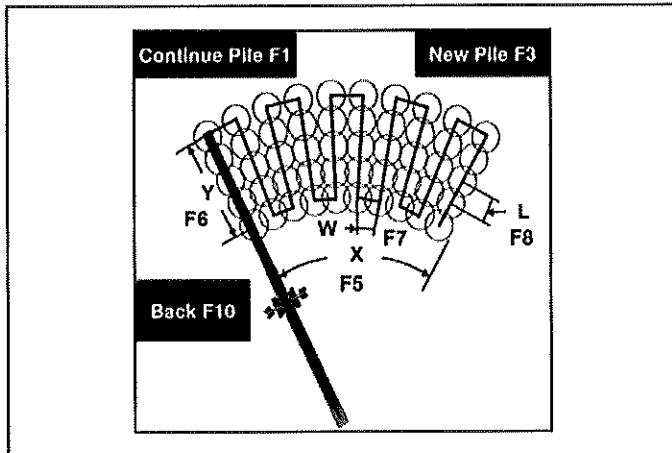

Figure 68
- Press screen **F5** or **[F5]** to adjust radial arc distance (**X**) (Figure 68).
- Press screen **F6** or **[F6]** to adjust extension distance (**Y**) (Figure 68).
- Press screen **F7** or **[F7]** to adjust radial increment distance (**W**) (Figure 68).
- Press screen **F8** or **[F8]** to adjust extension increment distance (**L**) (Figure 68).
- Press screen **F3** or **[F3]** to proceed with your new pile parameters or press screen **F1** or **[F1]** to accept to a previous enter pile (Figure 68).
- i. Press screen F3 or [F3] to proceed with your new pile parameters or press screen F1 or [F1] to accept to a previous enter pile (Figure 68).